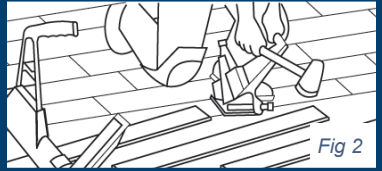

Fig 2
1.4 Using the same spacing, of 250-300mm secret nail at a 45 degree angle, ensuring a countersink through the tongue. For ease, a mechanical floor nailer can be used for this job. (Figure 2)
3.2 With this system use a one component, solvent-free, moisture curing polyurethane timber flooring adhesive for gluing your hardwood boards to the subfloor. When applying, comply with all instructions provided by the adhesive manufacturer. (*Figure 2*)
Incorrect Glue Placement: (Figure 2)